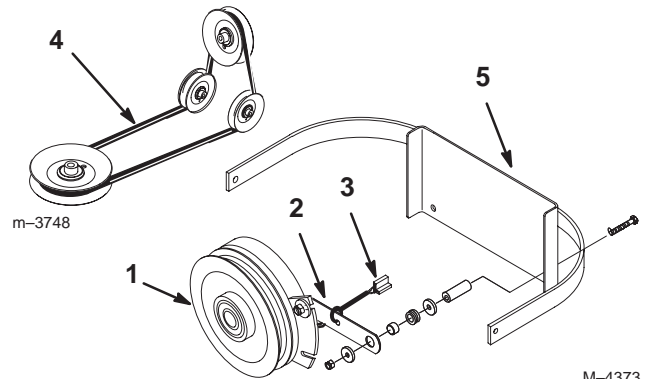

Figure 63
2. Remove the clutch retaining strap from machine frame and unplug clutch terminal from wire harness (Fig. 63).
7. Install clutch retaining strap and plug clutch terminal into main wire harness (Fig. 63).